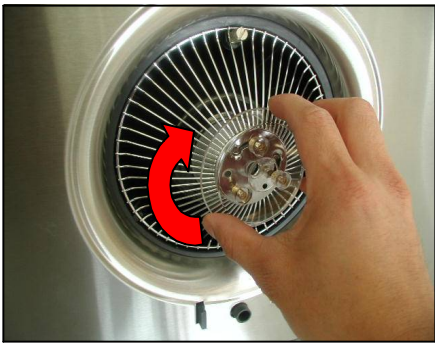

Figure 6
8. Place the oil container (round) into keyhole under each safety screen. Turn clock-wise until firmly in place. Refer to Figure 6.